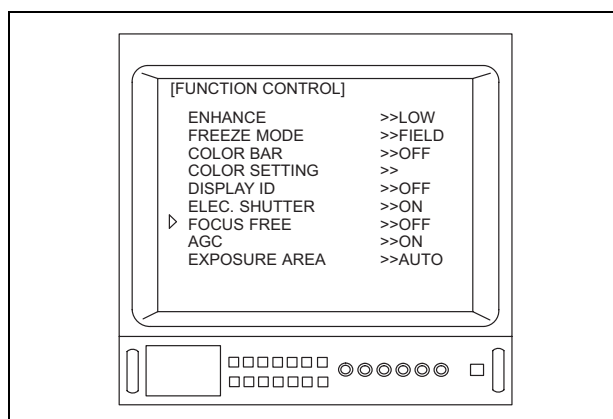

Figure 5.37
5. Depress the menu switches "◀" or "▶", or the "↑/↓/←/→" key on the keyboard to move the arrow "▷" to "FOCUS FREE" (see Figure 5.37).
- When the OTV-S7V is connected to the ENF-V, CYF-V/VA or HYF-V, "ELEC. SHUTTER" and "EXPOSURE AREA" shown in Figures 5.37 and/or 5.38 are not displayed.
- When the OTV-S7V is connected to the LTF-V3 or A500**A series, "EXPOSURE AREA" shown in Figures 5.37 and/or 5.38 is not displayed.
- When the OTV-S7V is connected to a camera head without the focus free function, or to a videoscope, "FOCUS FREE" shown in Figures 5.37 and/or 5.38 is not displayed.
- Depending upon the OTV-S7V's settings, the menus shown in Figures 5.37 and/or 5.38 may appear different from those displayed on the video monitor.